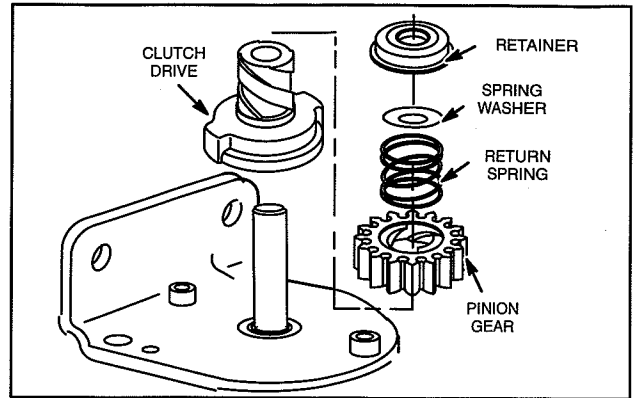

Fig. 12 – Removing Starter Drive
1. Assemble clutch drive to starter shaft and rotate clutch until it drops into place, Fig. 12.